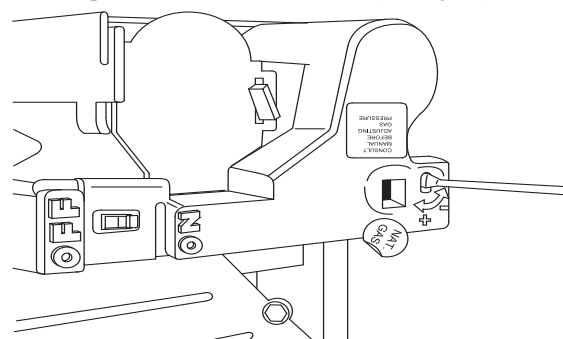

Fig. 25 – Modulating Gas Valve Adjustment
11. On some models, apply pipe dope sparingly to end of 1/8-in. (3 mm) pipe plug and install in the manifold pressure tap opening (see Fig. 16). Or, on some models, tighten set screw on manifold tower pressure tap with a 3/32-in. hex wrench (see Fig. 25).